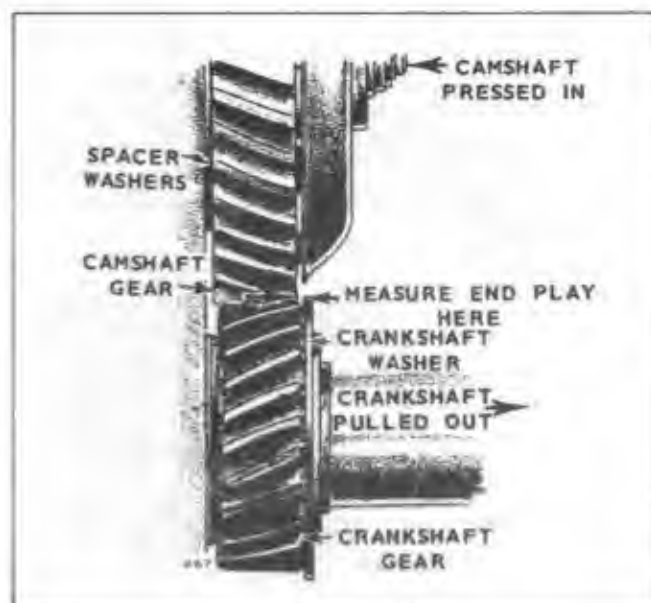

Figure 6. Camshaft Endplay
3. Slide the thrust washer onto the shaft. Measure camshaft endplay; it should be .007 in. to .039 in. (Fig. 6).